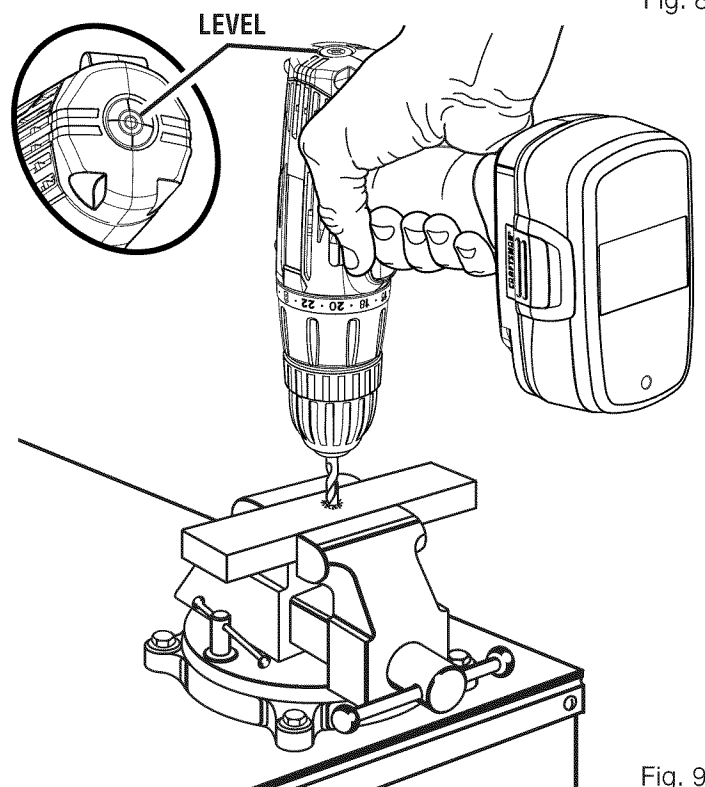

Fig. 9
**⚠ WARNING:** Make sure to insert the bit straight into the chuck jaws. Do not insert the bit into the chuck jaws at an angle then tighten, as shown in figure 9. This could cause the bit to be thrown from the drill, resulting in possible serious personal injury or damage to the chuck.
See Figure 9.